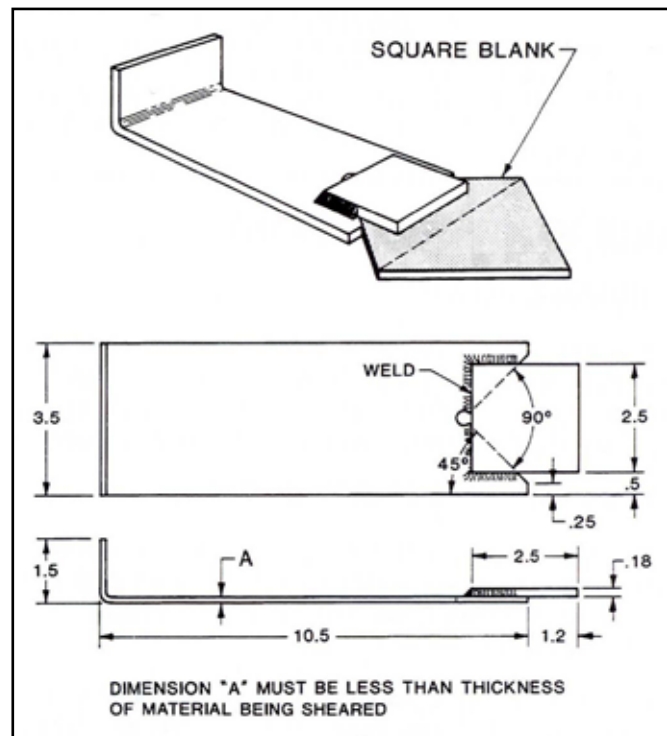

Figure 5-9 - Gusset Shearing Tool
Use the backgage and a special tool similar to Figure 5-9. A light beam shearing gage could be helpful. The following procedure is for 45° gussets. The tool and setup would vary for other angles.
4. Make a tool similar to Figure 5-9.